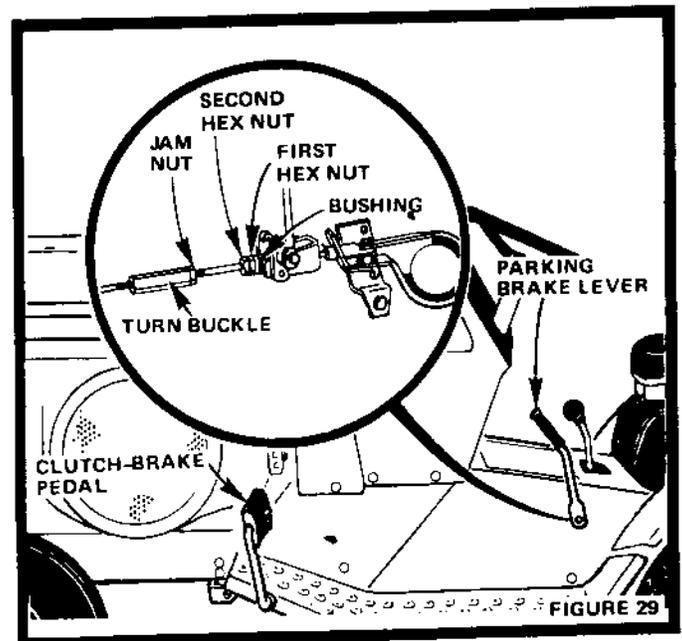

FIGURE 29
If Clutch-Brake Pedal (Fig. 29) has more than approximately 4 inches of travel from vertical to full brake position then brake adjustment is necessary.
- Loosen Jam Nut (Fig. 29) in order to turn turnbuckle clockwise (from in front of tractor) one turn at a time until Clutch-Brake Pedal regains 4 inches of travel.
- Loosen Parking Brake Hex Nuts (Fig. 29).